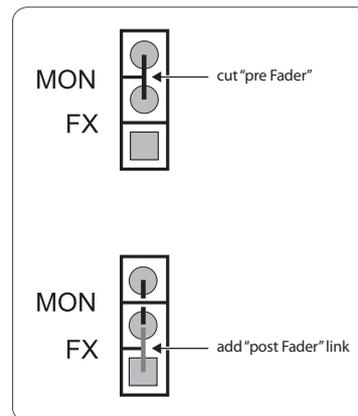

Fig. 5.1: Modification MON/FX "pre fader" > "post fader" 0
2. The positions in question are found on the part of the circuit board located perpendicular to the front side. Please observe figure 5.1.